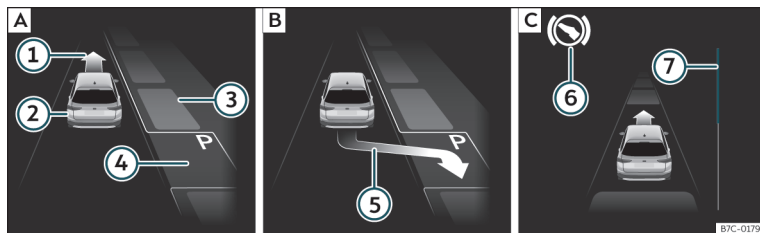
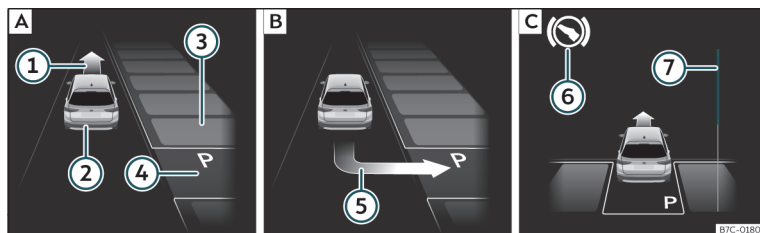

Fig. 229 On the instrument panel display: perpendicular parking. **[A]** Finding a parking space. **[B]** Parking position. **[C]** Manoeuvring.
Fig. 230 On the instrument panel display: parallel parking. **[A]** Finding a parking space. **[B]** Parking position. **[C]** Manoeuvring.
Key to **Fig. 229** and **Fig. 230**:
>>> **Fig. 229 ⑦** and >>> **Fig. 230 ⑦** on the screen of the instrument panel displays the relative distance to be covered. The greater the distance, the fuller the progress bar. When driving forward, the content of the progress bar decreases upwards, and when reversing, it decreases downwards.
2.	Look at the display on the instrument panel to see if the space has been detected as "appropriate" and if the correct position for parking has been reached >>> Fig. 229 [B] or >>> Fig. 230 [B] . The space is considered "appropriate" if the display on the instrument panel shows the message to park (5) .
4.	Release the steering wheel >>> (4) in Introduction on page 273.
6.	Reverse until the ParkPilot continuous signal is heard. OR: reverse until the instrument panel displays the message to go forwards >>> Fig. 229 [C] or >>> Fig. 230 [C] . OR: reverse until the instrument panel displays the message Park Assist finished . The progress bar (7) indicates the distance to cover >>> page 278.
7.	Press down the brake pedal until the Park Assist system has finished turning the steering wheel. OR: until the (S) symbol on the instrument panel display switches off.
9.	Go forward until the ParkPilot continuous signal is heard. OR: go forward until the instrument panel display shows the message to reverse. The Park Assist system steers the vehicle forward and back until it centres it in the space >>> Fig. 229 [C] or >>> Fig. 230 [C] .